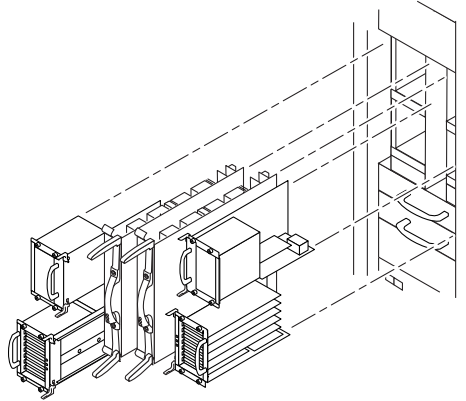

FIGURE 12-2 Removing All Components From the Front of the Sun Fire 6800 System
6. Remove all CPU/Memory boards, Repeater boards, I/O assemblies, System Controller boards, and filler boards or filler panels from the front and rear of the system (FIGURE 12-2).